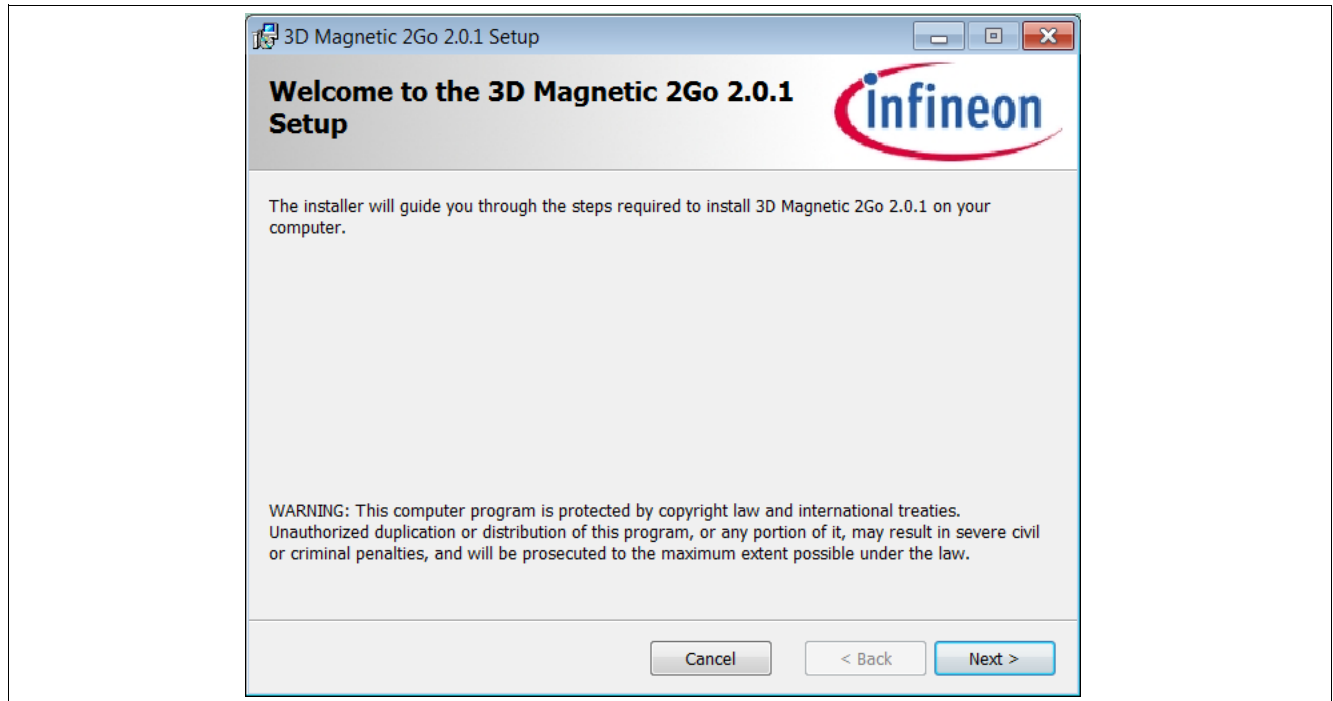

Figure 13 Start software installation
Step 3: Open the folder where the software was saved. Double click the .msi icon and the screen from **Figure 13** will appear. Click “Next”.